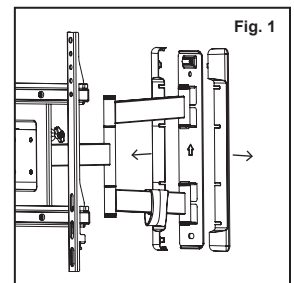

Fig. 1
- (J) M6 Washer (x4)
- (K) M8 Washer (x4)
- (L) Spacer (x8)
- (M) S5 Allen Key (x1)
- (N) S10 Socket Wrench (x1)
2. Carefully remove the plastic covers from the mount as shown (see Fig. 1).
1. Carefully remove the plastic covers from the mount as shown (see Fig. 1).